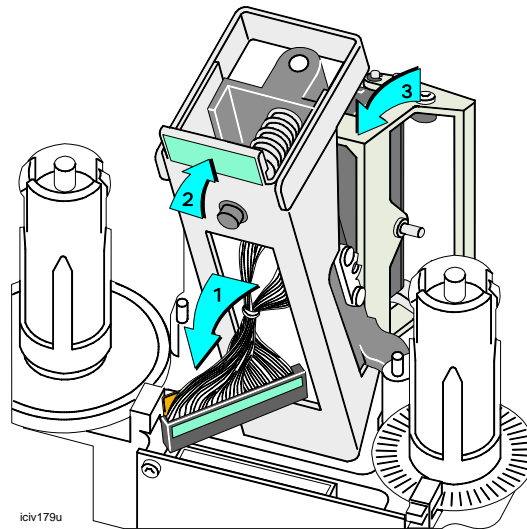

Figure 7-17: Pass the connector through the printhead cage
- 3 With the bar of the printhead cartridge toward the middle of the printer, pass the connector and printhead cable through to the back of the printhead cage (Figure 7-17).